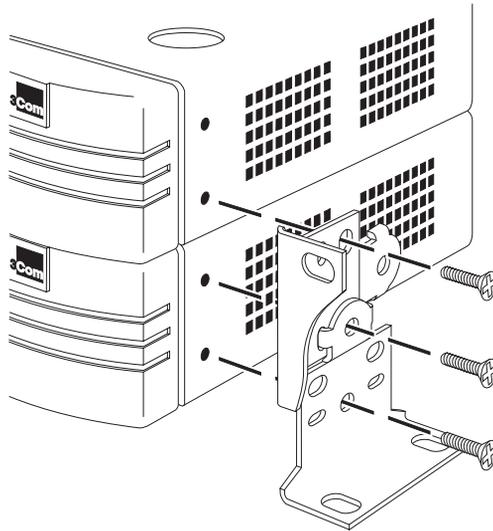

Figure 3-4 Locating the Brackets for Wall Mounting Two Hubs
- 2 Locate two mounting brackets over the mounting holes on one side of the hubs, as shown in Figure 3-4.